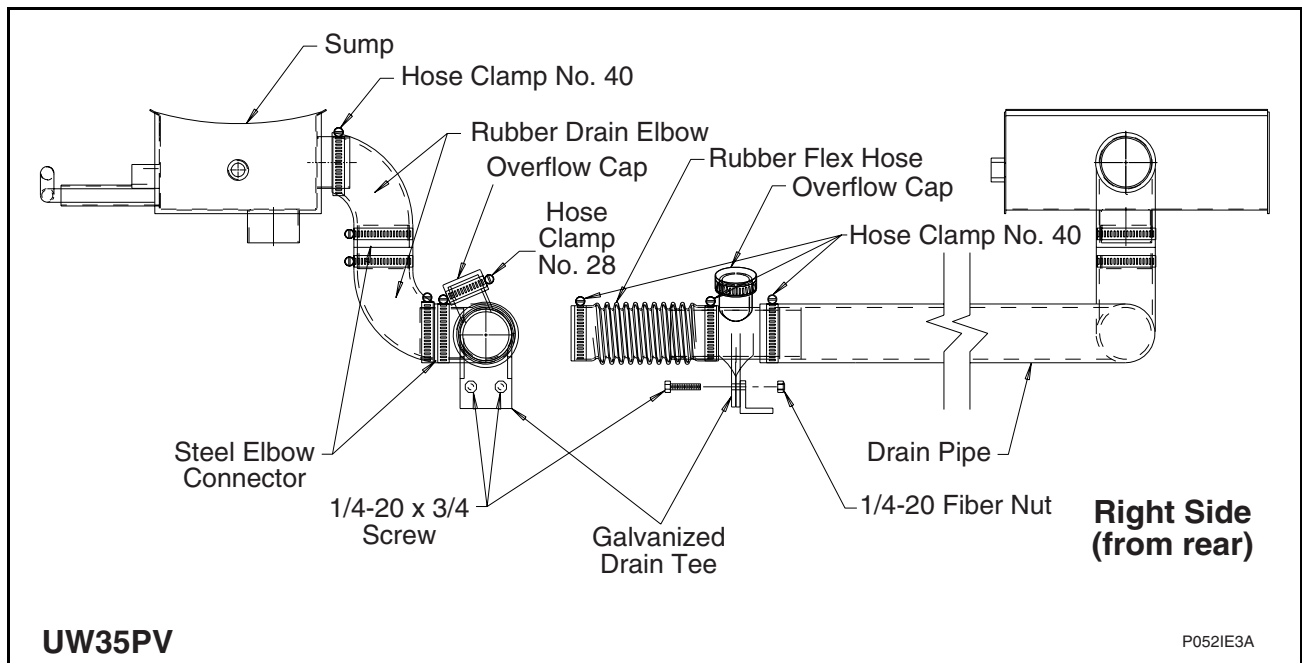

Figure 14
- Build right drain as shown in its completed state in Figure 14.